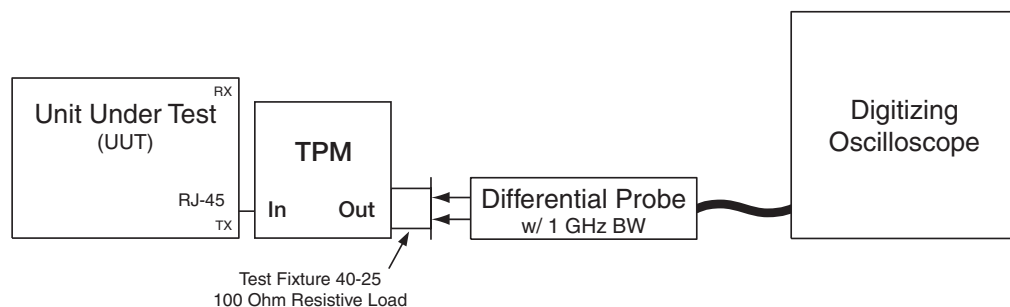

Figure 21-1 Test Setup for 10BASE-T Transmitter Output Timing Jitter with Cable Model
1. Insert CAT 5 cable, connected to twisted pair model, into UUT and attach differential probe to the test load as shown in Figure 21-1.